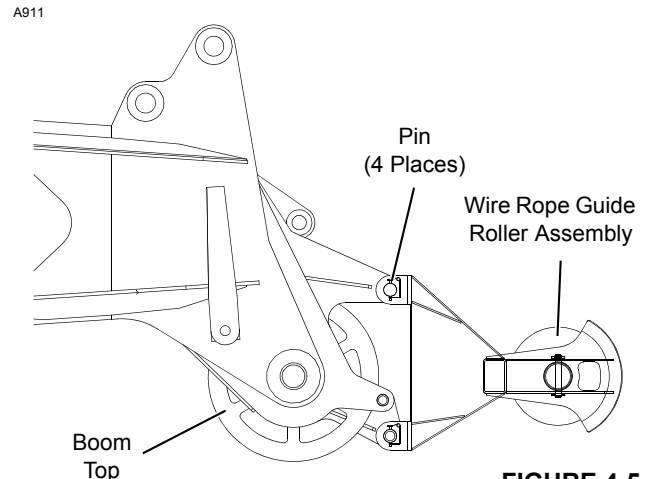

FIGURE 4-5
- a. Attach nylon sling (8, View A) from assist crane to bar (9) in upper wire rope guide.
- c. Remove pin (11) from holes (A).
- d. Slowly hoist with assist crane to rotate wire rope guide (7) to working position (View B).
- e. Pin links (10, View B) to holes (B).
9. For fold-under luffing jib, install wire rope guide roller assembly on boom top with pins and snap pins (Figure 4-5). ***This wire rope guide must be removed for operation with layout luffing jib.***